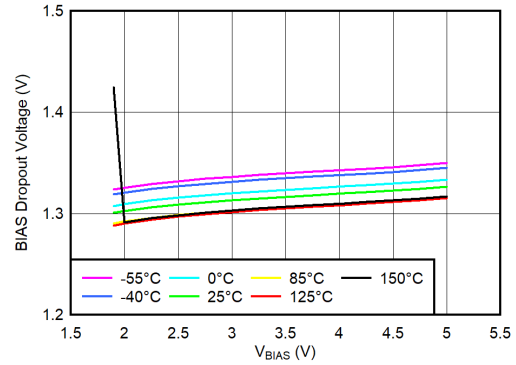

图 6-29. V_{IN} Dropout Voltage vs (V_{BIAS} - V_{OUT}) and Temperature (T_J)
(1) Adjustable devices tested at 0.8 V; resistor tolerance is not taken into account.
(2) Dropout is defined as the voltage from V_{IN} to V_{OUT} when V_{OUT} is 3% below nominal.
(3) 3.25 V is a test condition of this device and can be adjusted by referring to Figure 6-29.